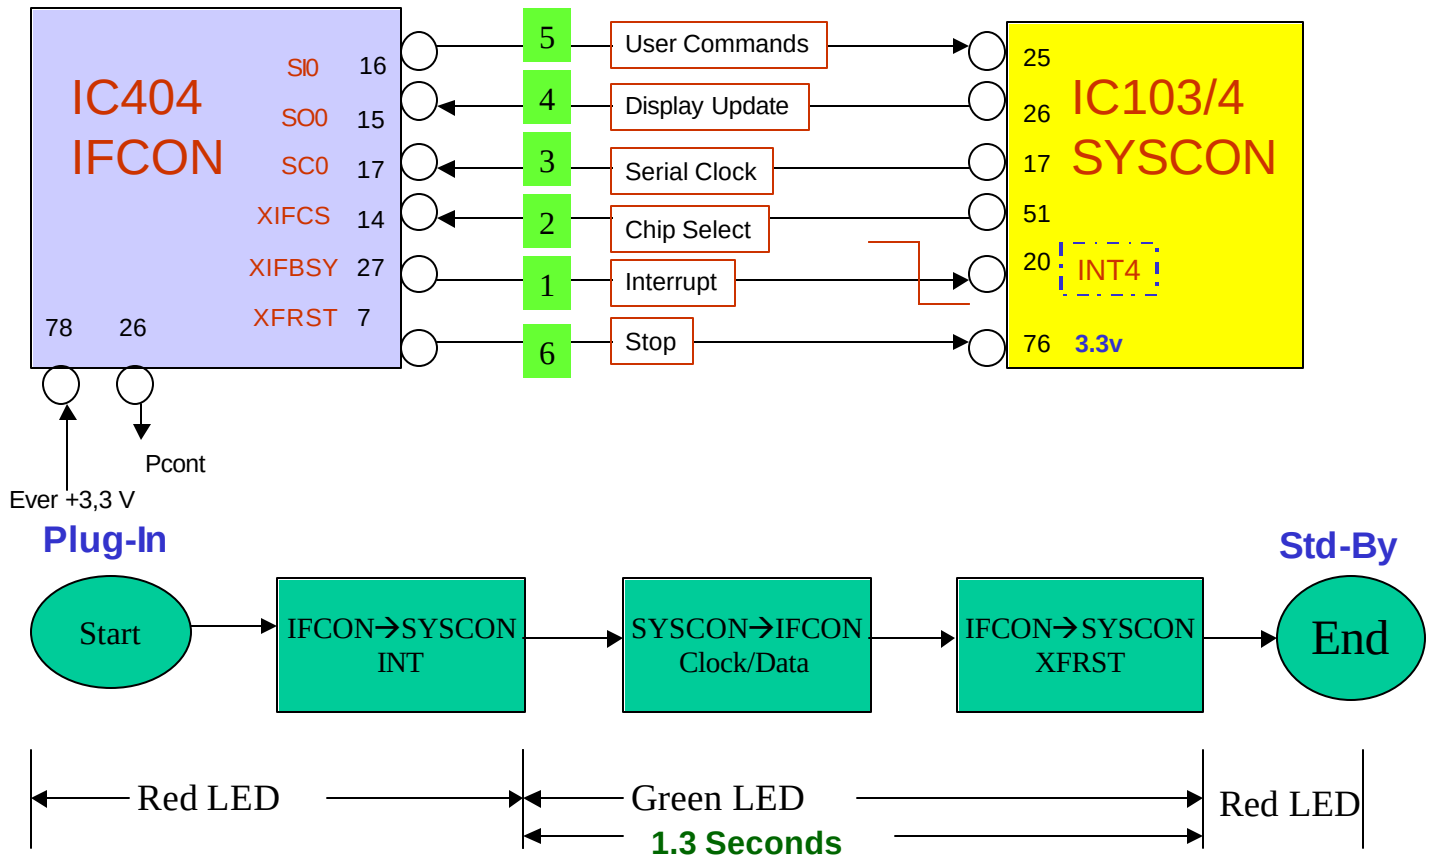

FIGURE 3-7 - PLUG IN SEQUENCE
5. After this sequence of Power ON, the following communications will take place as shown in Figure 3-7: